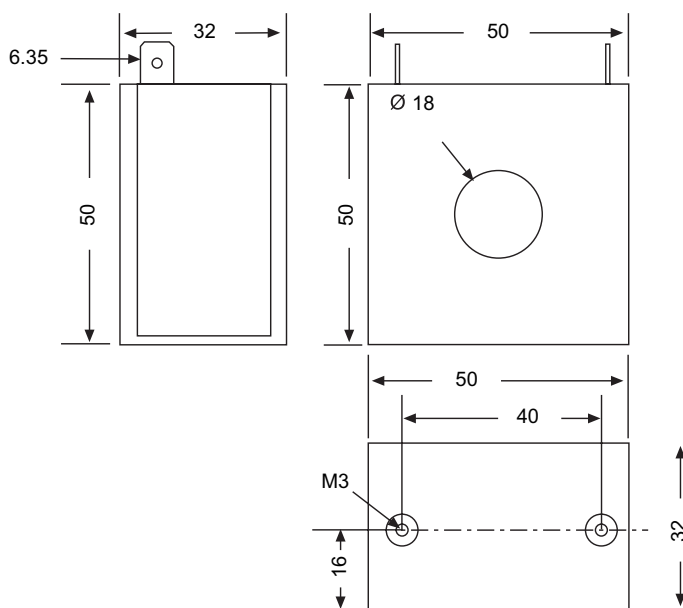

Figure 1 - STW3/STW4 dimensions in mm
Type STW3/STW4 current transformers are designed for screw mounting. Use two (2) type M3 screws. Refer to Figure 1 below for device dimensions.